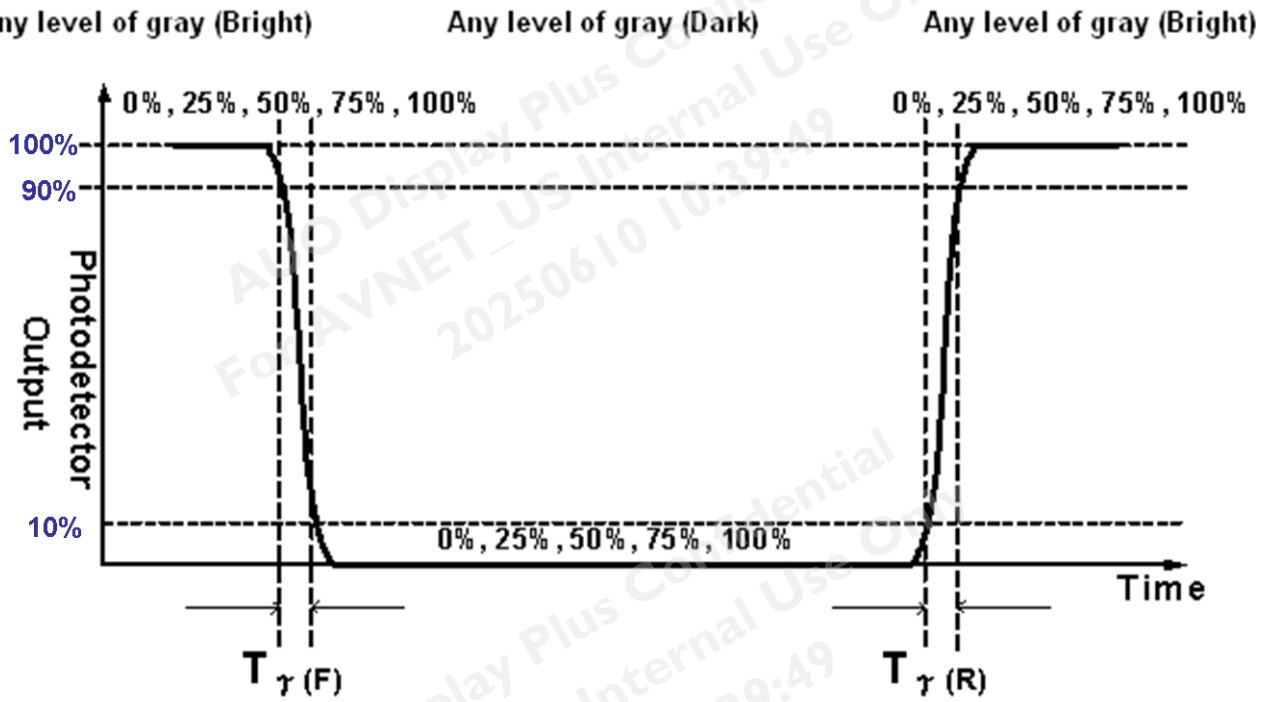

Fig. 2 Luminance
2. Surface luminance is luminance value at point 5 across the LCD surface 50cm from the surface with all pixels displaying white. From more information see **Fig. 2**. LED current I_f = typical value (without driver board), LED input $V_{\text{DDB}} = 24\text{V}$, I_{DDB} = Typical value (with driver board), $L_{\text{WH}} = L_{\text{on5}}$ where L_{on5} is the luminance with all pixels displaying white at center 5 location.